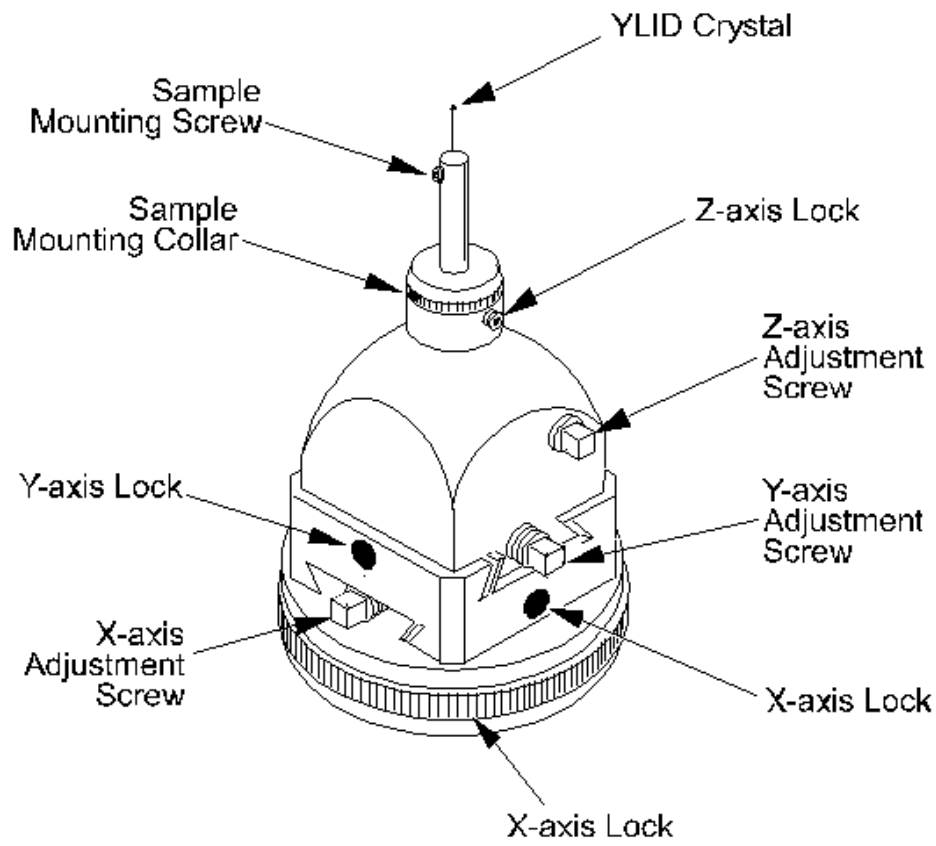
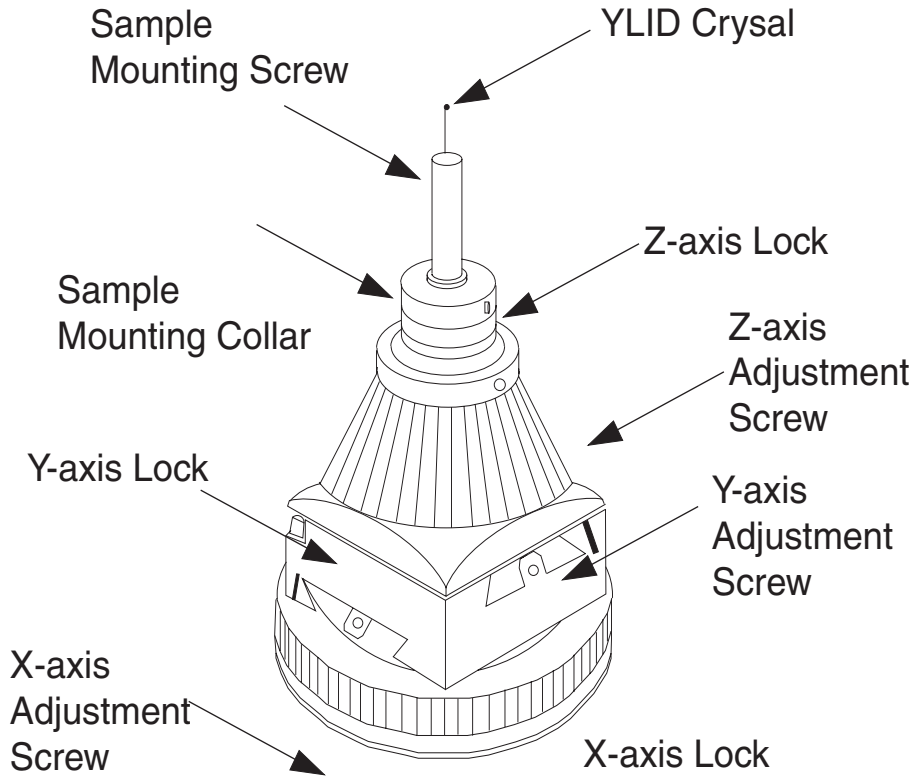

Figure 5.8 - Huber goniometer head in detail
Figure 5.9 - Standard goniometer head in detail
2. Use the z-axis (translation) screw and the x- or y-axis (translation) adjustment screw that is perpendicular to the microscope axis to move the crystal so it is centered in the microscope (see Figure 5.8 and Figure 5.9).